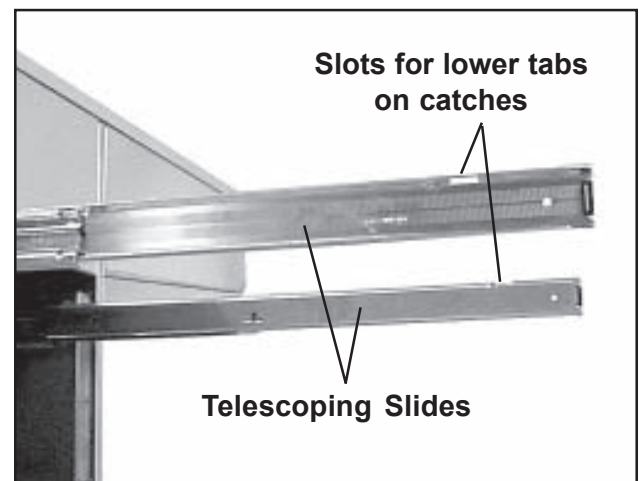

Figure 5. Drawer Telescoping Slides
1. Pull both telescoping slides out (Figure 5).